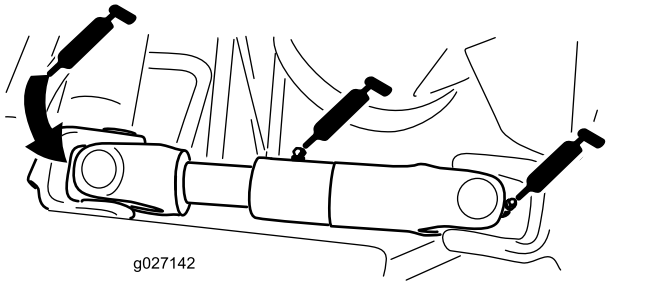

Figure 44
- Pump driveshaft U-joint (3) (Figure 44)